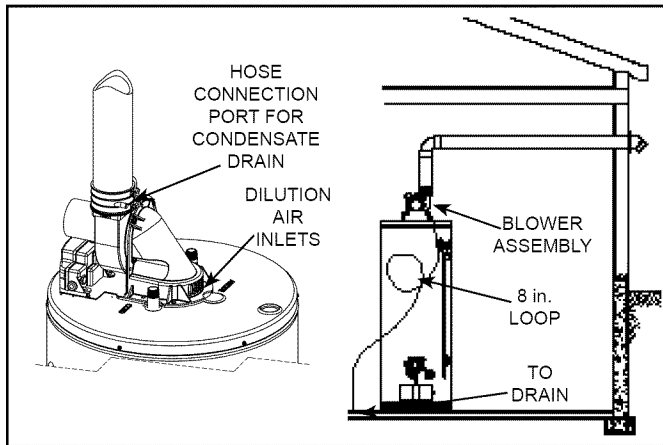

Figure 29.
1. This power vented water heater comes with blower assembly installed (see Figure 29).
This heater requires room air to lower the flue gas temperatures before the gases pass through the vent system. The dilution air inlets are located on the rear of the blower assembly (see Figure 2 & Figure 29).
Condensate formation does not occur in all installations of power vented water heaters, but should be drained on installations where it can form in the venting system. Condensation in the venting system of power vented water heaters is dependent upon installation conditions including, but not limited to, ambient temperature and humidity of installation location, ambient temperature and humidity of venting space, vent discharge and slope, and product usage. In certain conditions, installations in unconditioned space or having long horizontal or vertical vent runs can accumulate condensate. Long lengths of venting that pass through cool/cold areas will experience condensation. The vent pipe should be sloped upwards away from the blower assembly, then adequate means for draining and disposing of the condensate needs to be made by the installer. If installation conditions cause condensation, install a condensate trap loop approximately 8 in. in diameter using 3/8" plastic hose. Connect the hose to the built-in drain port of the rubber coupling of the blower assembly (see Figure 29). Loop the hose in a vertical position as shown. The tube loop must be filled with water at least half way prior to operating the heater. Ensure the end of the tube has access to a drain as condensate will flow from the end. Secure the tubing to the side of the heater. Prior to operating the water heater, make sure the removable cap is installed on the drain port (if a drain hose is not needed).